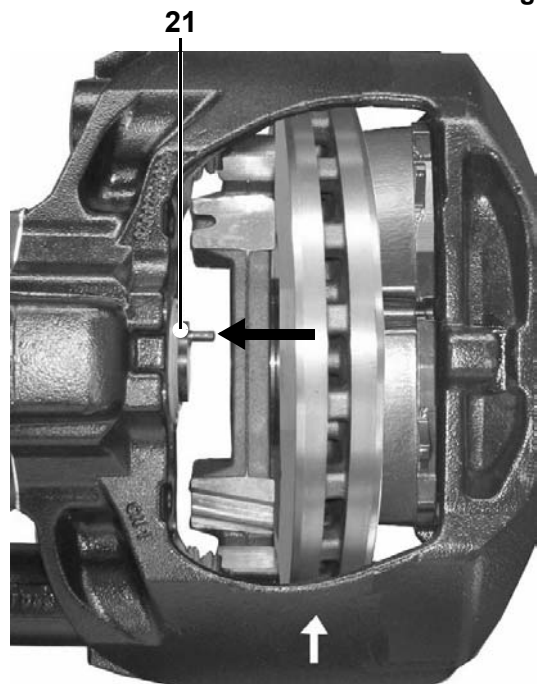

Fig. 53
- Secure adjuster screw (21) against turning (arrow Fig. 53) and screw out the adjuster screw c. 30 mm by turning the adjuster hexagon in the anti-clockwise direction with a ring spanner.